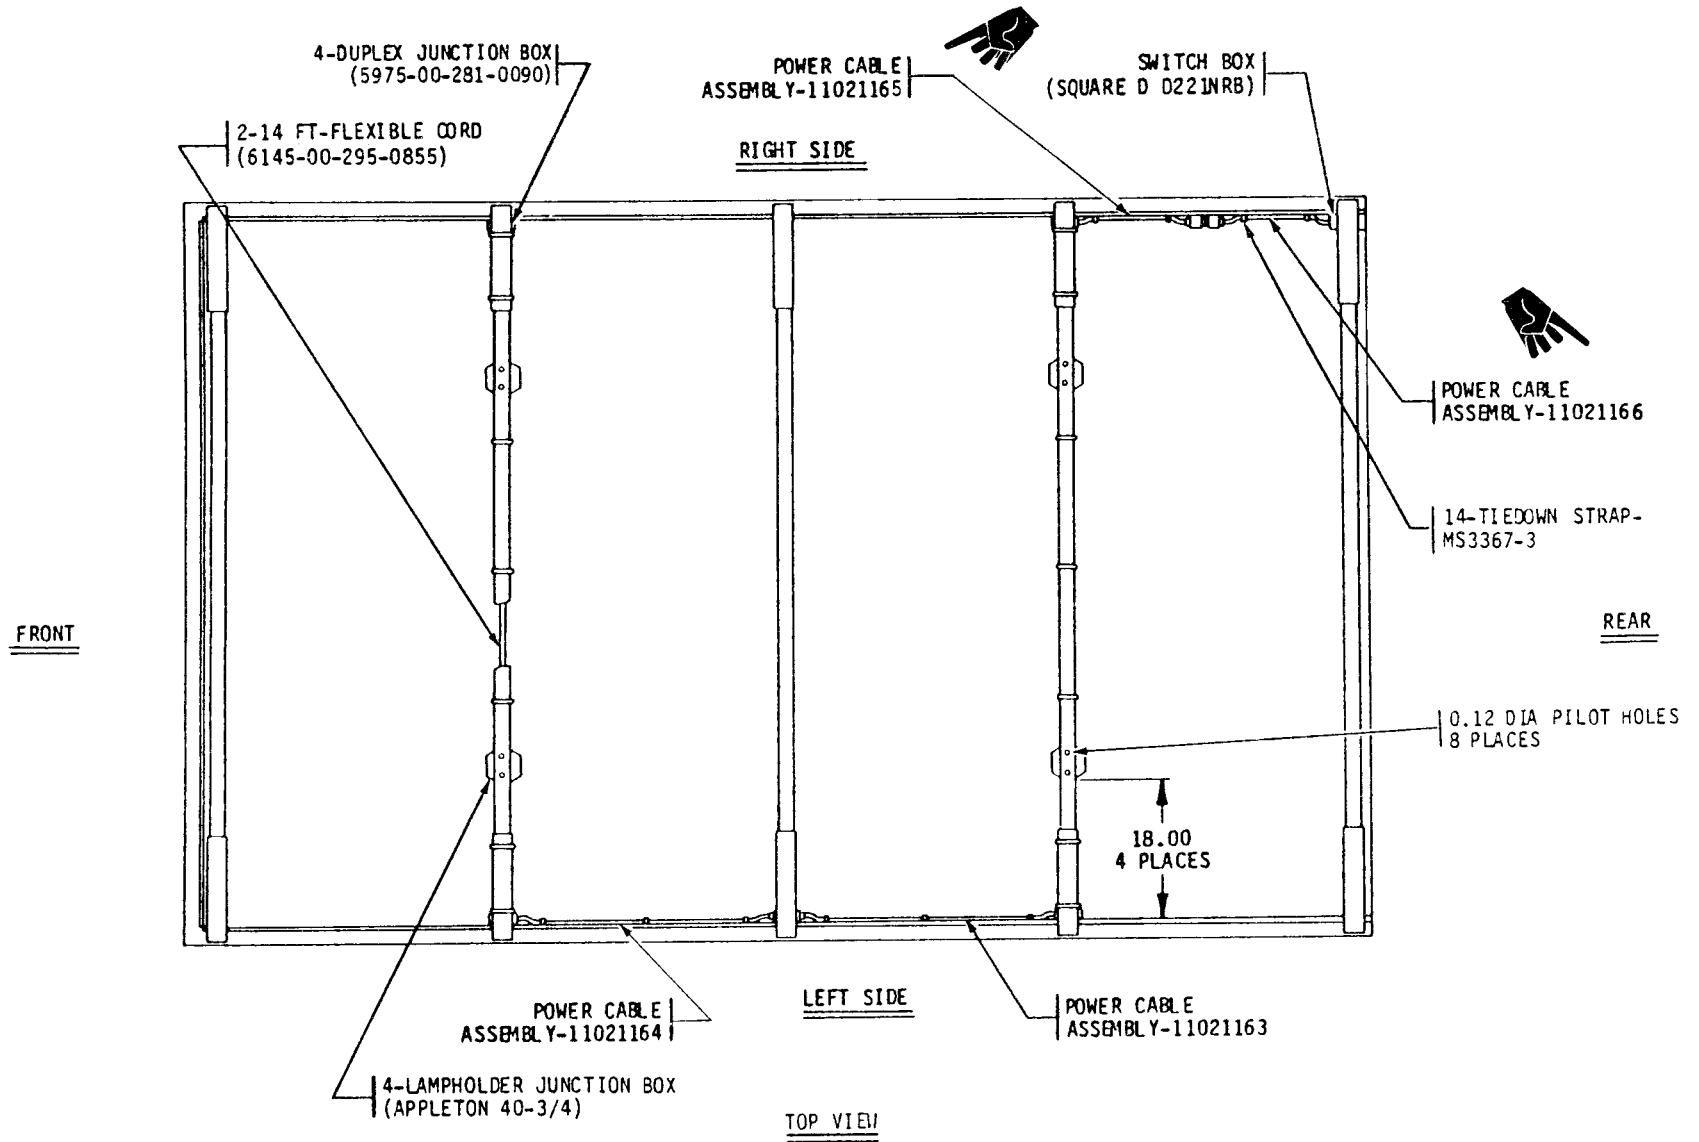
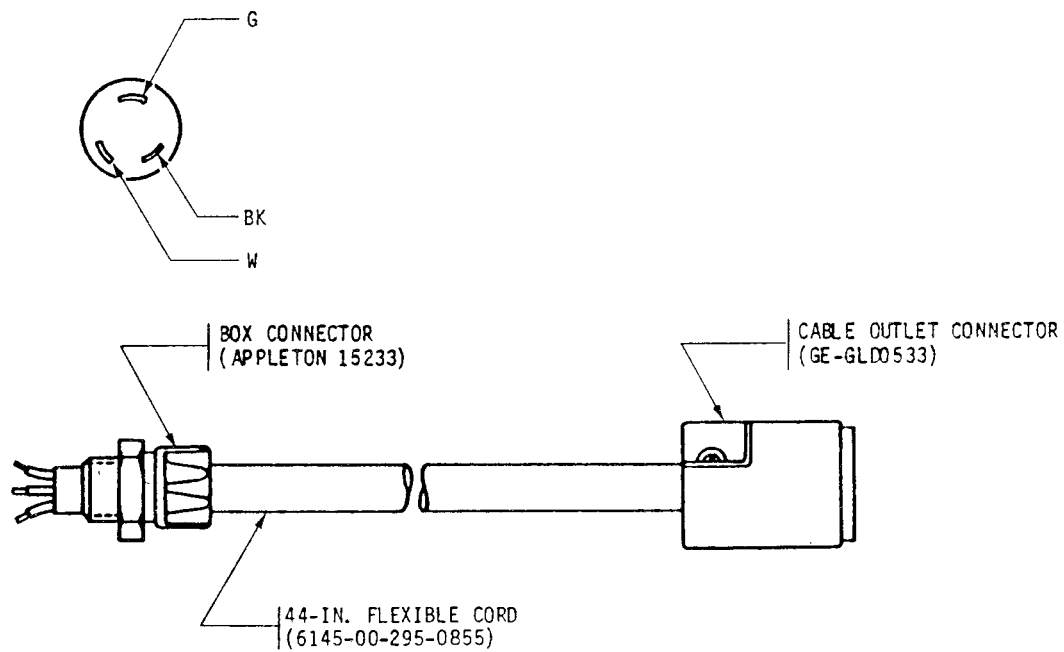

Figure 14. Electrical Components to be Mounted, Unit 1, M35A2, Top View.
Figure 18. Power Cable Assembly, 11021163, Unit 1, M35A2.
(5) Position four lampholder junction boxes (Appleton 40-3/4) on inner side of second and fourth bows as shown in figure 14. Mark and drill eight 0.12-in. diameter pilot holes and secure lampholder junction boxes to bows with eight #10 x 1-in. thread forming screws (MS51861-49).
(8) Fabricate four power cable assemblies (11021163, 11021164, 11021165, and 11021166), using approximately 14 feet of cable (6145-00-295-0855). Install four box connectors (Appleton 15233). Refer to figures 18 thru 21 for individual power cable construction, and install in accordance with figures 14 thru 17.
(13) Tighten all box connectors (Appleton 15233) to secure flexible cords in junction boxes and switch box. Refer to figures 14 thru 21.
(14) Secure power cable assemblies to bows and truck rack with twenty-eight tiedown straps (MS3367-3) (fig. 14 thru 16).